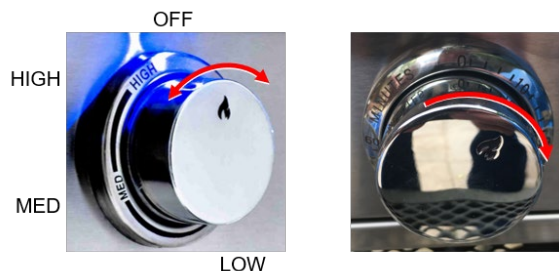

Figure 28 Heating Element Controls
5. Rotate the grill temperature knob either direction to HIGH (Figure 28)
8. Adjust the temperature setting as desired to HIGH, MED, or LOW (Figure 28); place food on the grill, and set the timer for the desired cooking time, up to 60 minutes